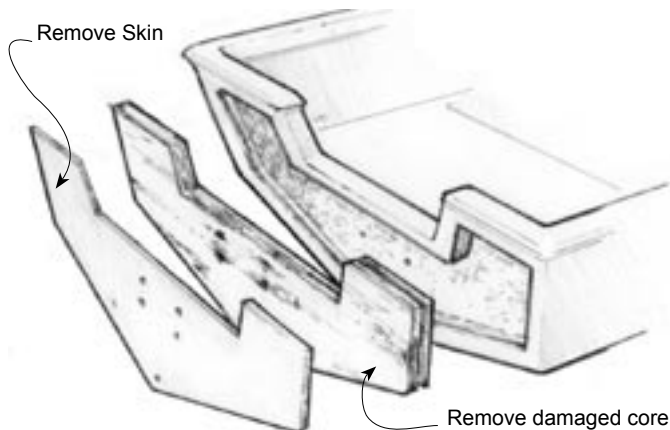

Figure 5-9 Cut through the outer skin at the perimeter of the core. Remove the skin and the core if it is delaminated or rotted.
4. Remove the damaged plywood core (Figure 5-9). Use a chisel or whatever combination of tools is required to remove all damaged material. The plywood core in the perimeter and corners of the transom will be the biggest challenge. If necessary, use large drill bits to carefully weaken and remove stubborn areas. Shave all traces of the core material from the inner skin, being careful not to damage the skin. Make any necessary repairs to the inner skin. Sand the skin to prepare for bonding.